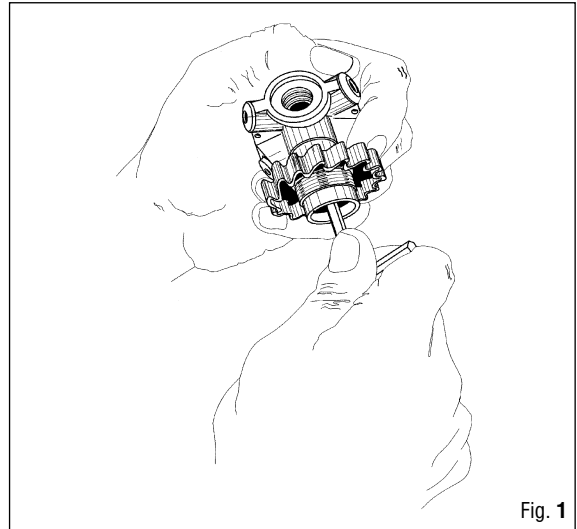

Fig. 1
1. WITH A 4 mm HEX WRENCH UNSCREW THE O-RING SEAT (51) FROM THE CONNECTOR BODY (48).
2. REMOVE THE O-RING (198) FROM THE O-RING SEAT (51).
3. TURNING UPSIDE DOWN THE FIRST STAGE, REMOVE THE CONICAL FILTER (56) FROM THE CONNECTOR BODY.
4. INSERT A 5 mm HEX WRENCH (B4) INSIDE THE CONNECTOR BODY (48) AND UNSCREW IT COMPLETELY (Fig. 1).
5. REMOVE THE CONNECTOR BODY (48) AND THE WHEEL (49).
6. REMOVE THE O-RING (71) FROM THE CONNECTOR BODY (48).